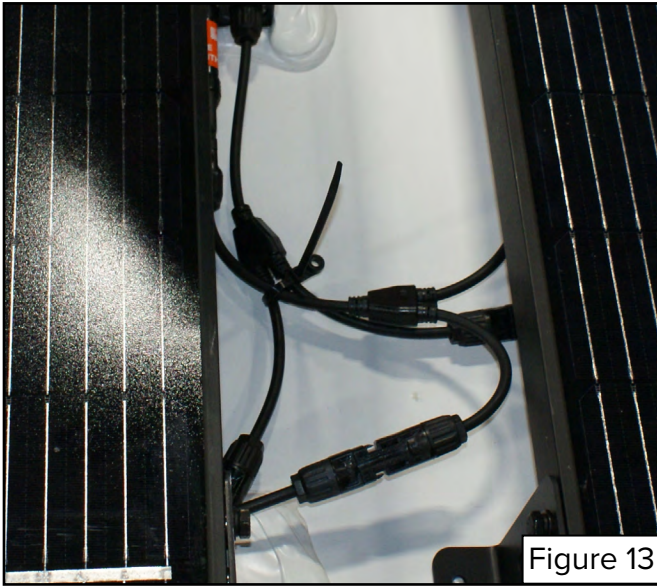

Figure 13
10. Using cable ties (not provided), secure the solar panel wiring cables to prevent the wiring from jostling around during travel (Figure 13).